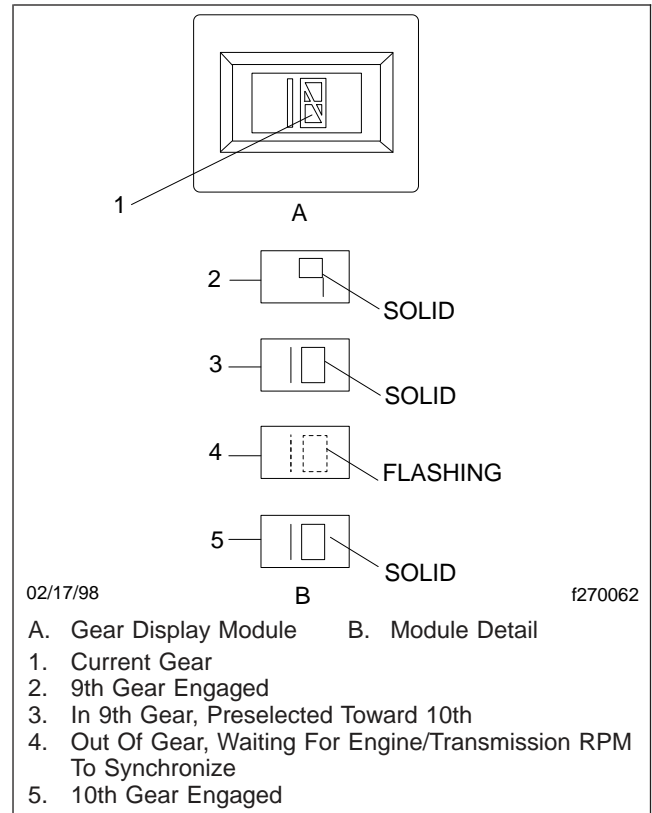

Fig. 8.3, Gear Display Module
- The gear display module (Fig. 8.3) mounted on the dashboard indicates the current gear position or transmission status. The display also flashes the next gear to be engaged while the transmission is in neutral during a gear change.